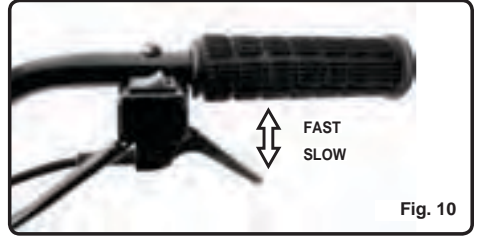

Fig. 10
- 4 Hold the throttle trigger fully depressed in fast position (See Figure 10)
To increase the engine speed, lift up on the throttle trigger (See Figure 10).
- 1 Release the throttle trigger and allow the engine to idle for a few moments (See Figure 10)